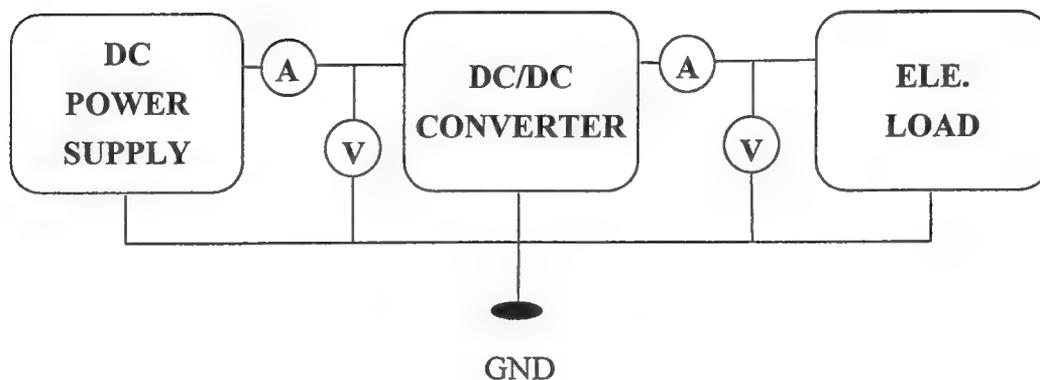

Figure 2.
5. All measuring refer to figure 2.
4. All measuring refer to figure 2.